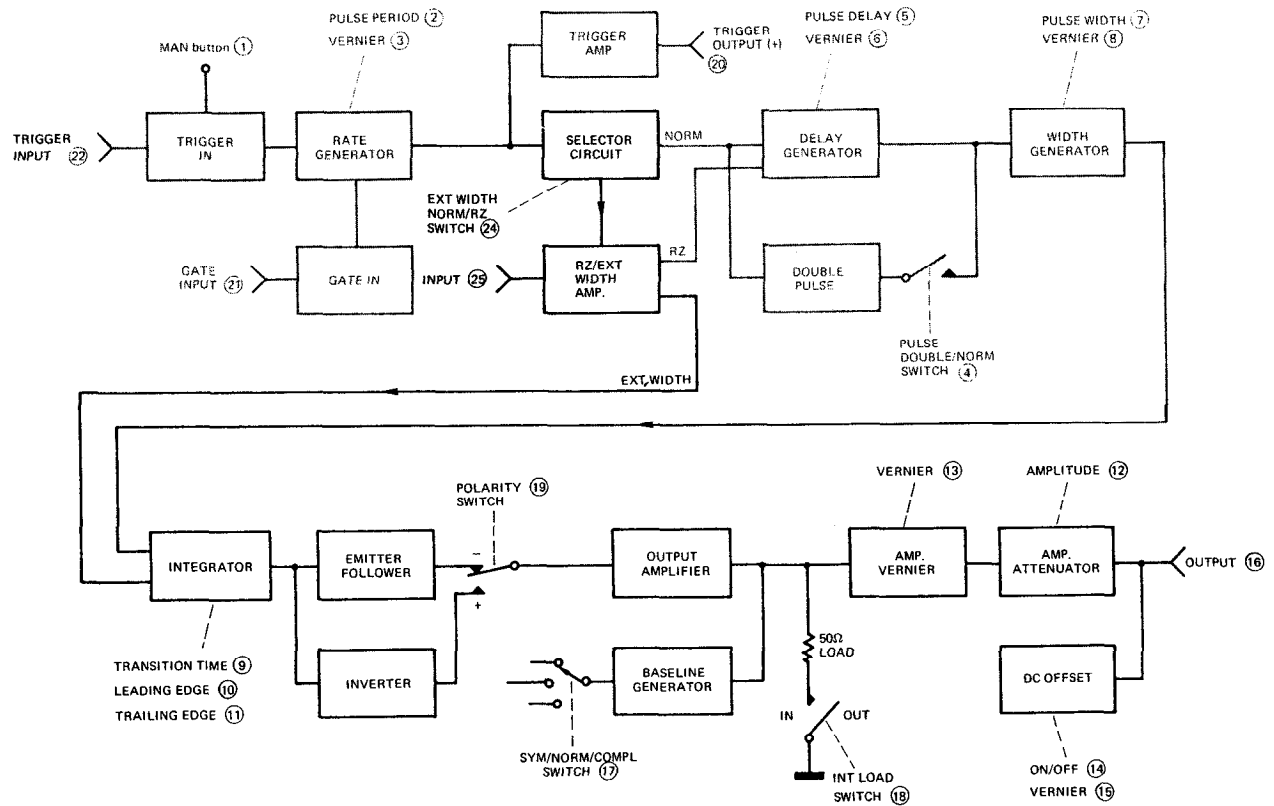

Figure 3-22. External width mode – block diagram
3-51 In this mode, external pulses, applied to the INPUT connector (25) on the rear panel, trigger the transition time integrator (see figure 3-22) and cause the output amplifiers to change state at the threshold level of the input signal. Thus the pulse output is a
3-52 The circuits and controls involved in external width mode are shown in Figure 3-22.